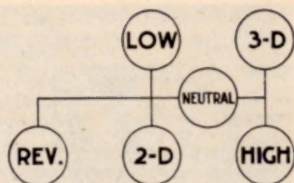
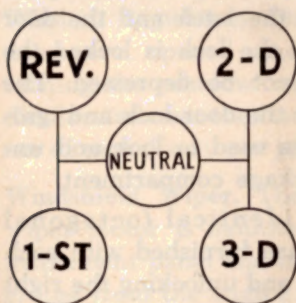

Fig. 10—Four-Speed Transmission Shifting Diagram
Fig. 11—Three-Speed Transmission Shifting Diagram
1). This lever is used to shift the transmission gears to the desired position. Figure 10 shows the lever knob positions when the transmission is in neutral, reverse and the four forward speeds. To shift the transmission into any of the forward speeds, disengage the clutch, move the lever across neutral to right or left as desired, and then forward or back into gear.
Figure 11 shows the gearshift lever knob positions when the transmission is in neutral, reverse and the three forward gear positions. To shift the transmission into any gear position, disengage the clutch, move the shift lever to right or left in neutral position and then forward or back into the desired gear.
2. Move gearshift lever to left and into low gear position. (If 4-speed transmission see Figure 10, or if 3-speed transmission see Figure 11.)
1. Depress clutch pedal and release accelerator at the same time. Move the shift lever into neutral and then to the next higher gear. See shifting diagrams, Figures 10 and 11.
2. Move shift lever across neutral to left, raise latch on shift lever and move lever to left as far as it will go. Move lever back into reverse (fig. 10).
2. Move shift lever across neutral to left and forward into reverse position. (fig. 11).